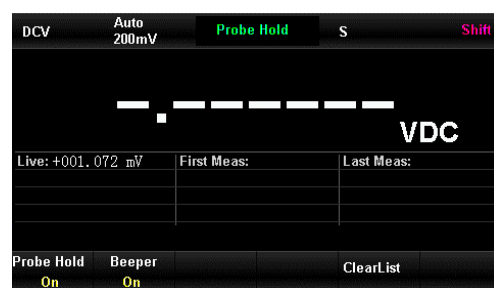

Figure 3-11 ACV Hold measurement
- 5) Connect a test lead with the multimeter. Connect the red test lead to terminal Input-HI and the black one to terminal Input-LO. The AC voltage will be recorded as Figure 3-11.